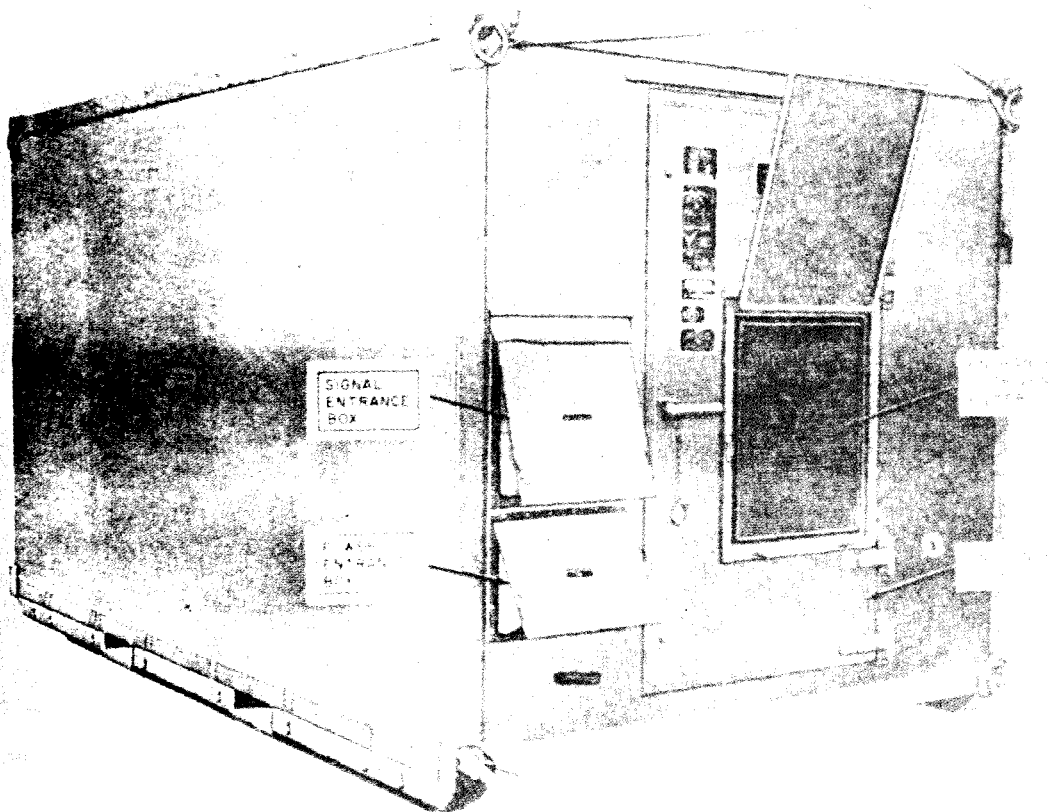
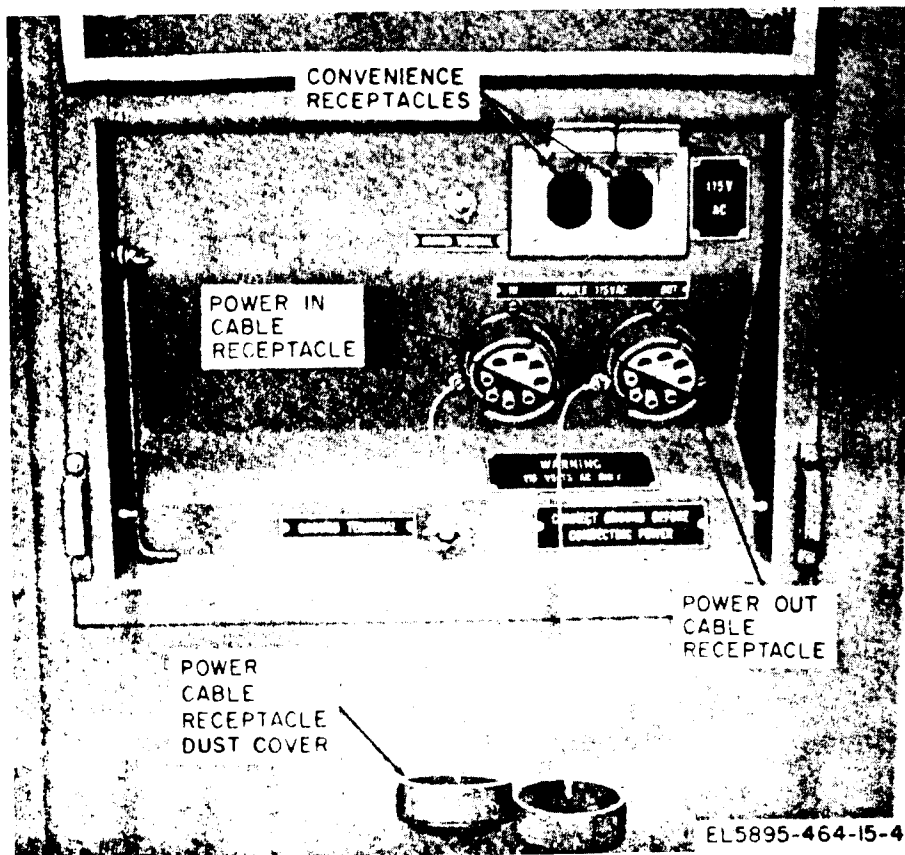

Figure 1-1. Operation Center, Communication AN MSC-31A, rear roadside view.
Figure 1-4. Power entrance box, exterior front view.
a. Power and Signal Connections. Watertight receptacles are provided in the power entrance box (fig. 1-4), on the AN/MSC-31A rear wall (fig. 1-1), for connection to an external power source. Alternating current (ac) power may be provided by a motor-generator set or from a central power source.
a. This manual describes Operations Center, Communications AN/MSC-31A (fig. 1-1 and 1-2). The manual includes instructions for installing, operating, and maintaining the AN/MSC-31A.
a. Operations Center, Communications AN/MSC-31A (fig. 1-1, 1-2, and 1-3) is an air-or land-transportable field communication operations office assemblage. It contains telephone switchboard, local telephone circuits, and provisions for the optional installation of radio equipment (para 4-6). Display board facilities are provided for a Signal Operations Officer to plan, engineer, and control an area-type communication system.
(2) *Entrance boxes.* The power and signal entrance boxes (fig. 1-1) are mounted in the exterior wall of the shelter. Each entrance box is equipped with folding side panels for weather protection and is secured with captive screw fasteners.
(a) The power entrance box (fig. 1-4) contains receptacles for connecting ac power to the shelter components. It also contains a duplex convenience outlet receptacle (115 volts ac) equipped with a spring-loaded watertight cover. Entrance to the rear of the power entrance box is provided on the interior rear wall when the power entrance panel is removed.
a. Loosen and lift the cover of the power entrance box (fig. 1-1).
b. Connection to Motor-Generator Set. If a motor-generator set is used to provide power to the AN/MS-31A, connect power to the shelter as described in (1) and (2) below; otherwise, connect power as described in c below.
(1) Remove the cover from the IN POWER 115V AC receptacle in the power entrance box (fig. 1-4) and from the connector on one end of the power cable assembly. Connect the power cable assembly to the IN POWER 115V AC receptacle.
(2) If the motor generator set includes an output connector that is compatible with the connector on the power cable assembly, connect the power cable assembly to the generator set; otherwise, refer to the motor-generator set manual and connect the leads (white lead neutral) of the power cable stub to the appropriate output terminals of the motor-generator set. Connect the power cable stub to the power cable assembly.